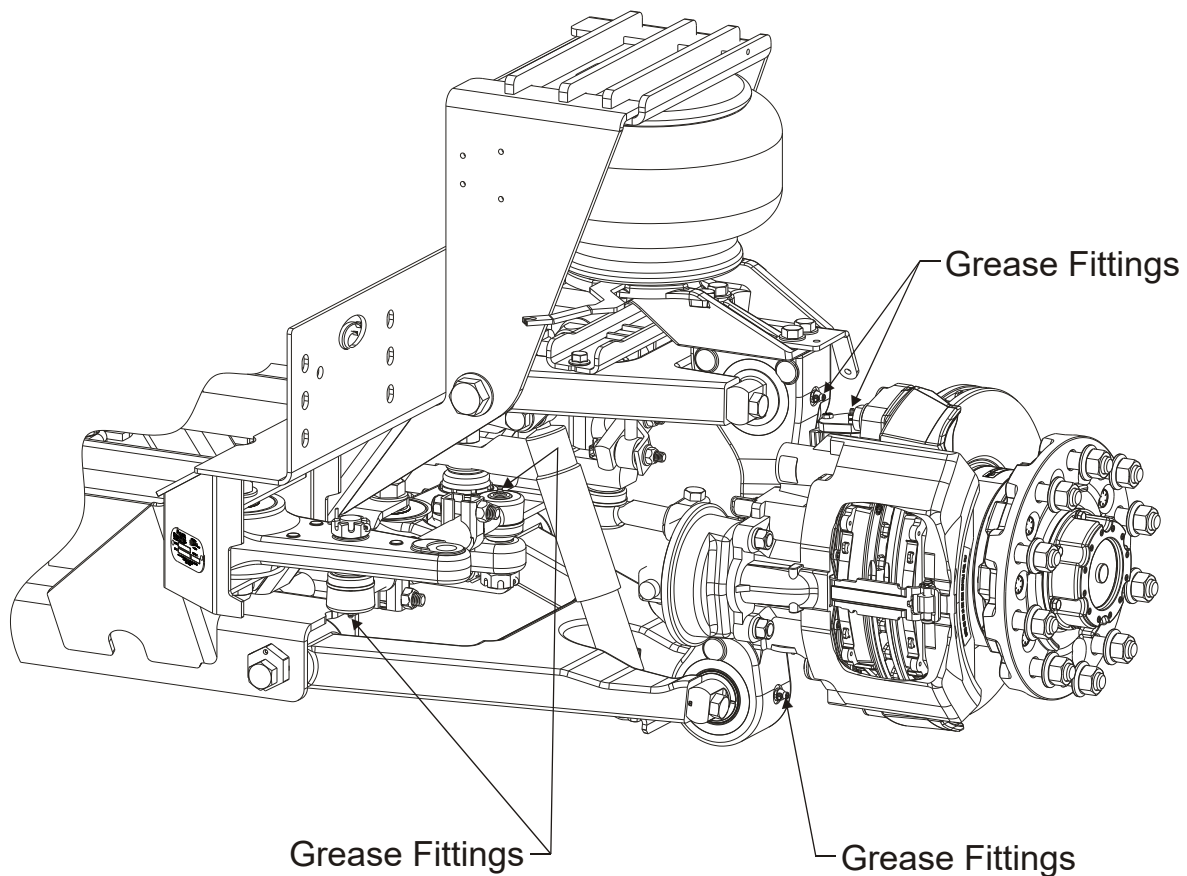

Figure 4 – Location of Lubrication Fittings
2. Apply lubricant to grease fitting until new lubricant discharges from the dust boot (**Figure 4**).